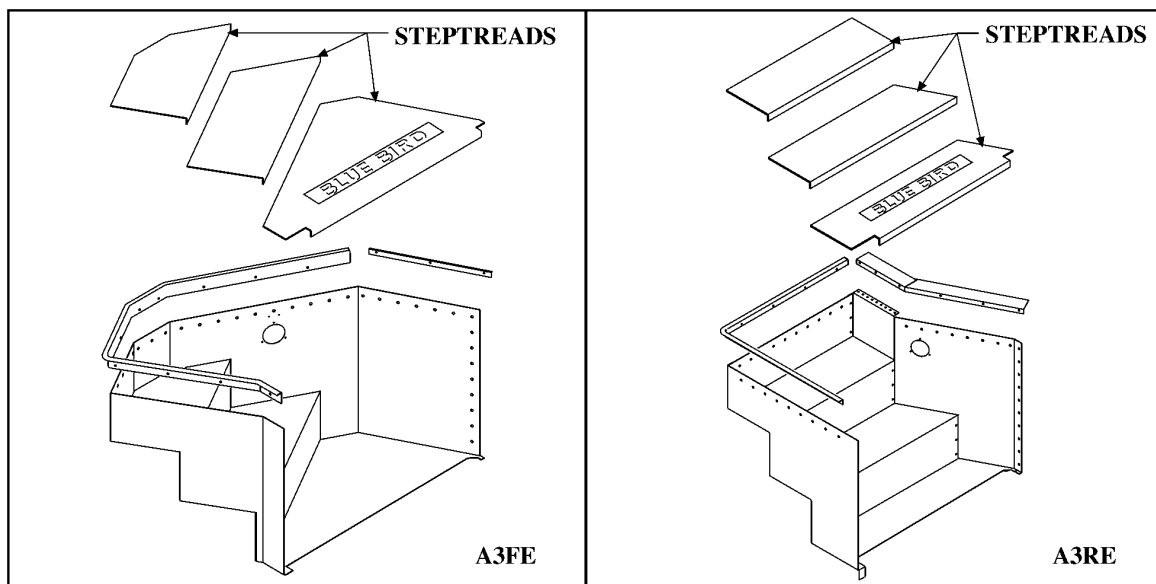

Figure 1—Stepwell and Steptread
1. Jack the front of the bus up, so that the removed stepwell will clear. **Figure 1—Stepwell and Steptread.**
4. Remove steptread. **Figure 1—Stepwell and Steptread.**